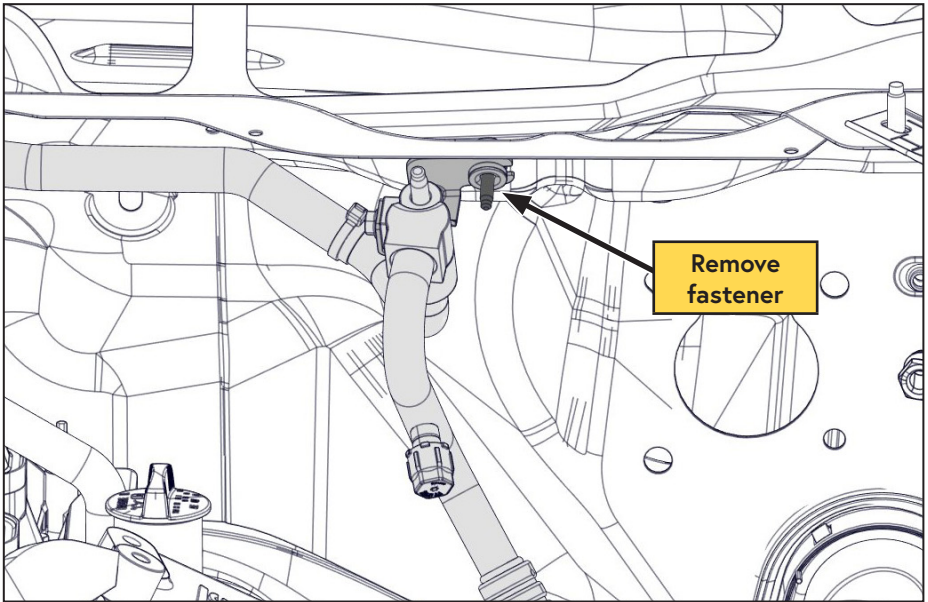
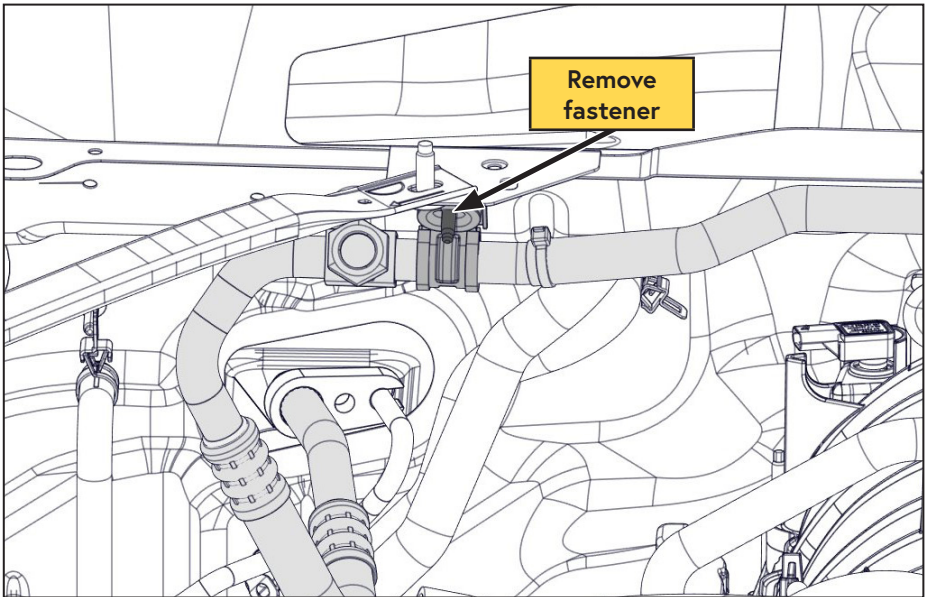

Figure 28 — Driver side
Figure 29 — Passenger side
- ☐ Remove the fasteners securing the AC line to the firewall and set them aside (Figure 28 Figure 29).